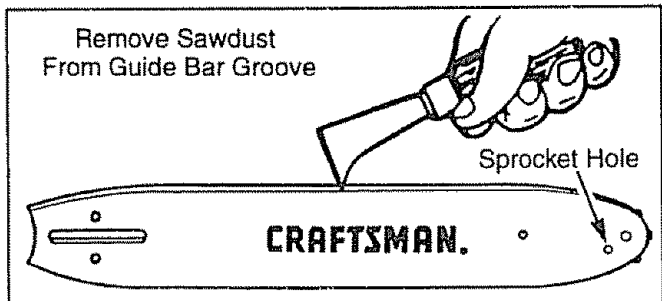

Figure 38
GUIDE BAR MAINTENANCE (Fig. 38 & 39)
- Clean all saw dust and any other debris from the guide bar groove and guide bar lubrication hole. Figure 38.
- Lubricate guide bar sprocket hole after each use. Figure 38.